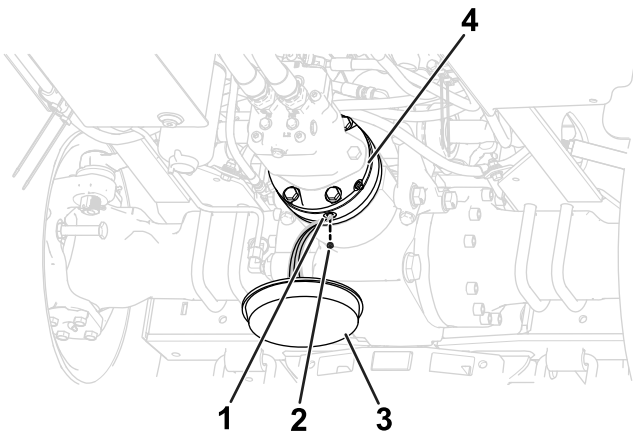

**Figure 107**
2. Remove the plug from the sight port of the rear PTO gearbox (Figure 107).